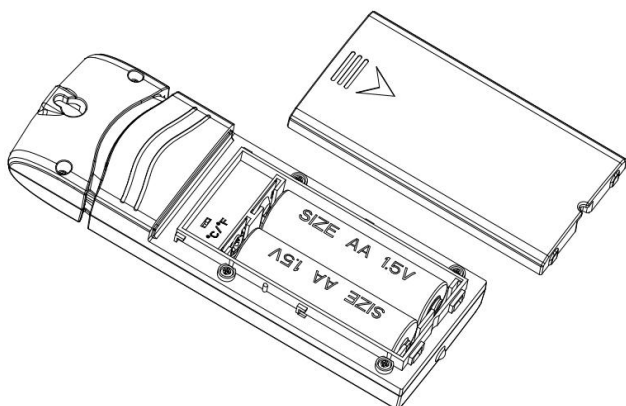

Figure 20: Indoor sensor battery installation
- To avoid permanent damage, make sure to observe the correct battery polarity before inserting the batteries. Refer to Figure 20: from left to right, the left-most (or bottom) battery should be inserted with the positive (+) terminal facing down, and the other battery with the positive (+) terminal facing up.
- ✧ **Temperature Units:** To change the transmitter display units of temperature measure (°F vs. °C), change Dip Switch °C/°F, as referenced in Figure 20.